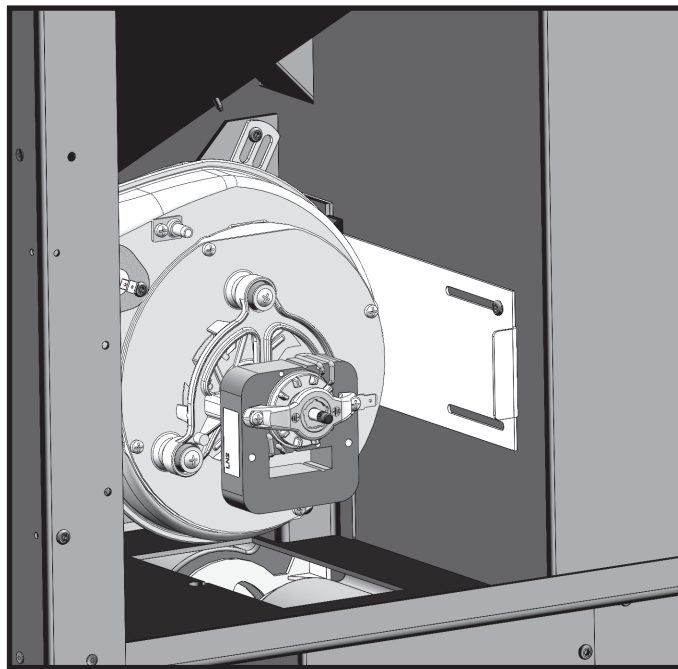

Figure 15: TN40 Damper.
2. Locate the double screw terminal wiring block at the top of the board (See Figure 15), loosen the two screws on the block. Insert one of the wires from the thermostat into one of the slots and tighten the screw. Repeat this process for the other thermostat wire.
- To increase the vacuum in the firebox, pull the damper out towards the outside of the stove See"Figure 15: TN40 Damper." and push it in to reduce the vacuum.